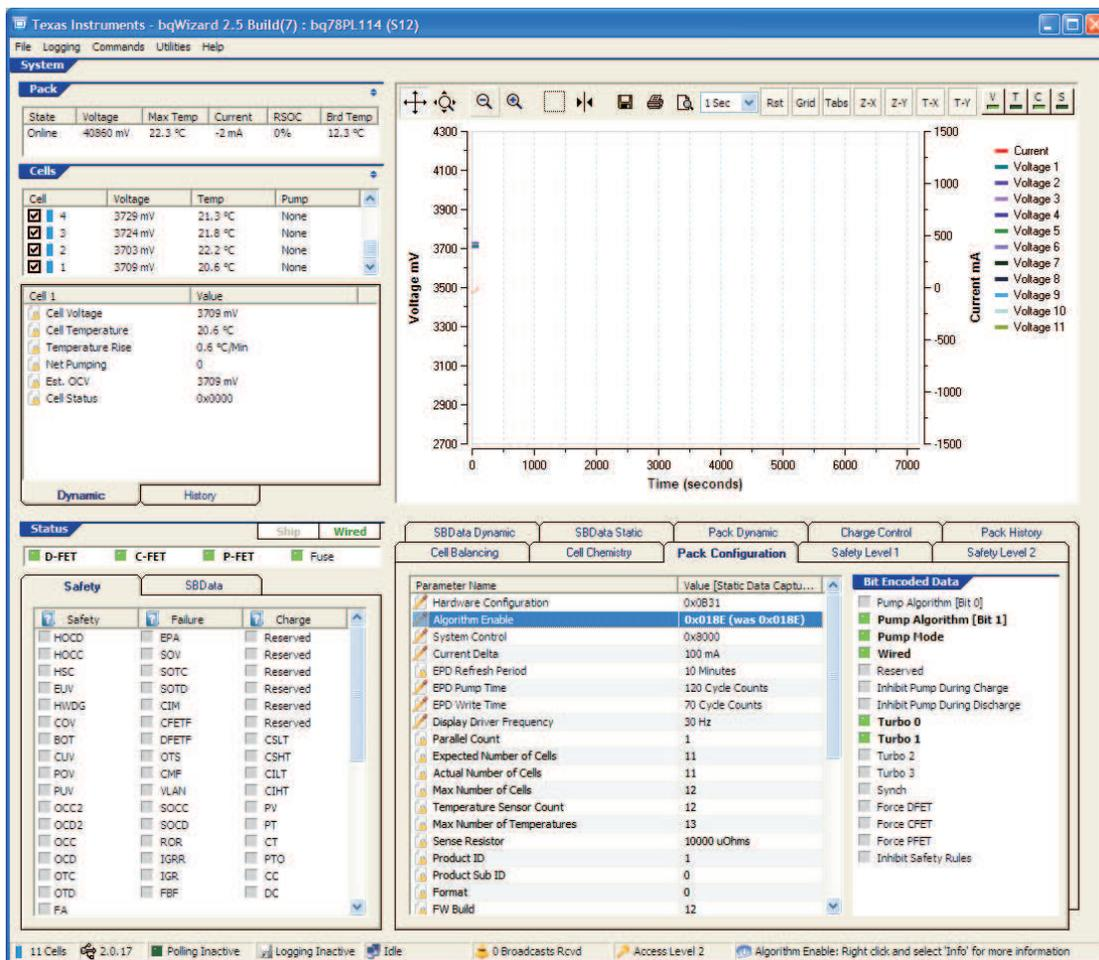
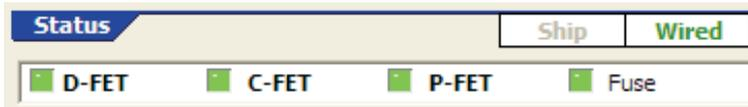

Figure 26. S12 Home Screen
Figure 27. Zoom-in on Status Field
5. Finally, select Read All Parameters to update the home screen. (Figure 26 and Figure 27)
Figure 26 shows the S12 home screen with the properly initialized gauge having the Charge and Discharge FETs turned on.
Figure 27 is a zoom-in on the Status field. Discharge (D-FET), Charge (C-FET) and Pre-charge (P-FET) MOSFETs are all on. Also, no FUSE error is indicated.
5. Select Read All Parameters to update the home screen. (Figure 26 and Figure 27)